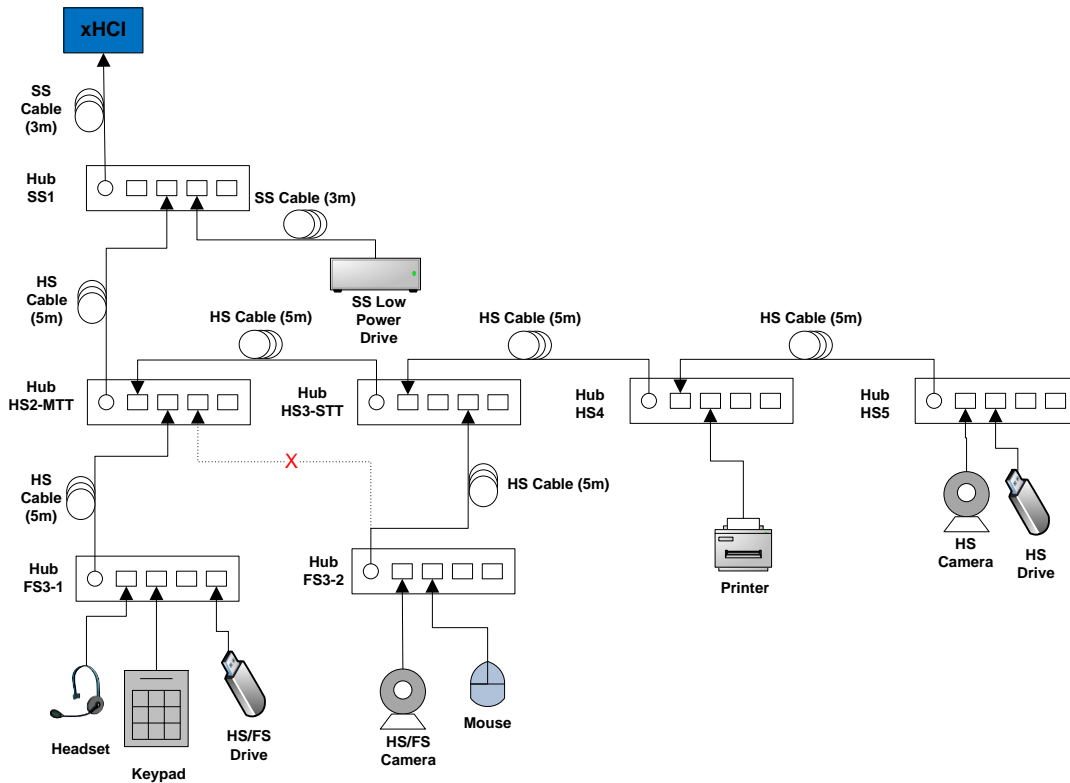

Figure 3: Topology Change 1
- While operating the devices, reattach Hub FS3-2 to port 3 on Hub HS3-STT as shown in Figure 3.